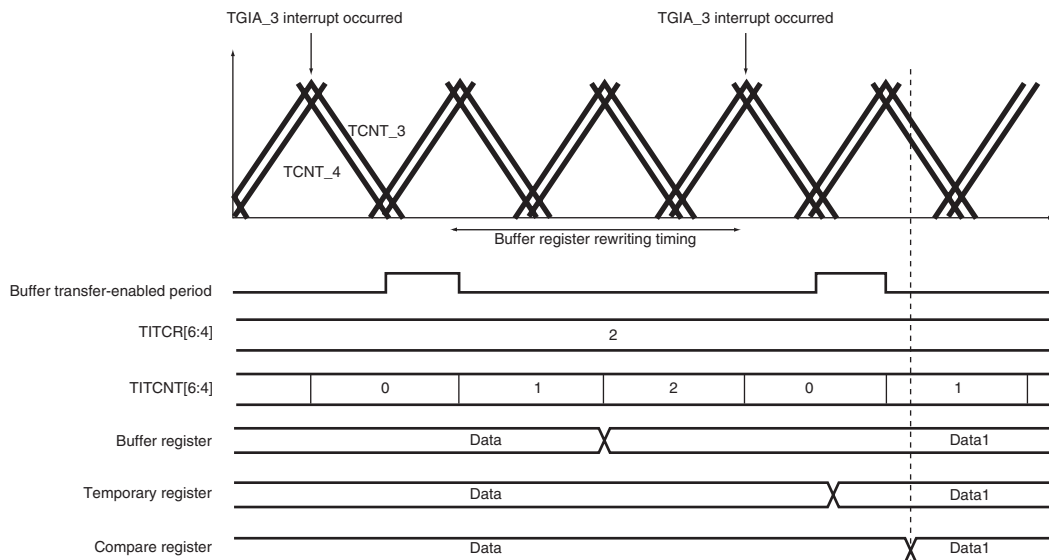

**Figure 9.56 Timing for Synchronous Counter Clearing**
Initial output suppression is applicable only when synchronous clearing occurs in the Tb interval at the trough as indicated by (10) or (11) in figure 9.56. When synchronous clearing occurs outside that interval, the initial value specified by the OLS bits in TOCR is output. Even in the Tb interval at the trough, if synchronous clearing occurs in the initial value output period (indicated by (1) in figure 9.56) immediately after the counters start operation, initial value output is not suppressed.